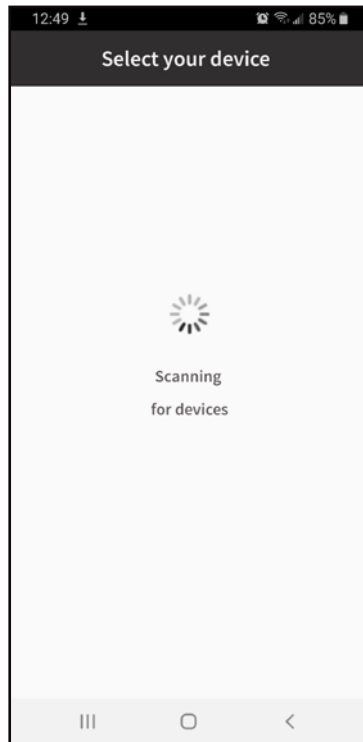

Fig. 5
4. Search for devices and select the device from the list (**Fig. 5 & 6**).